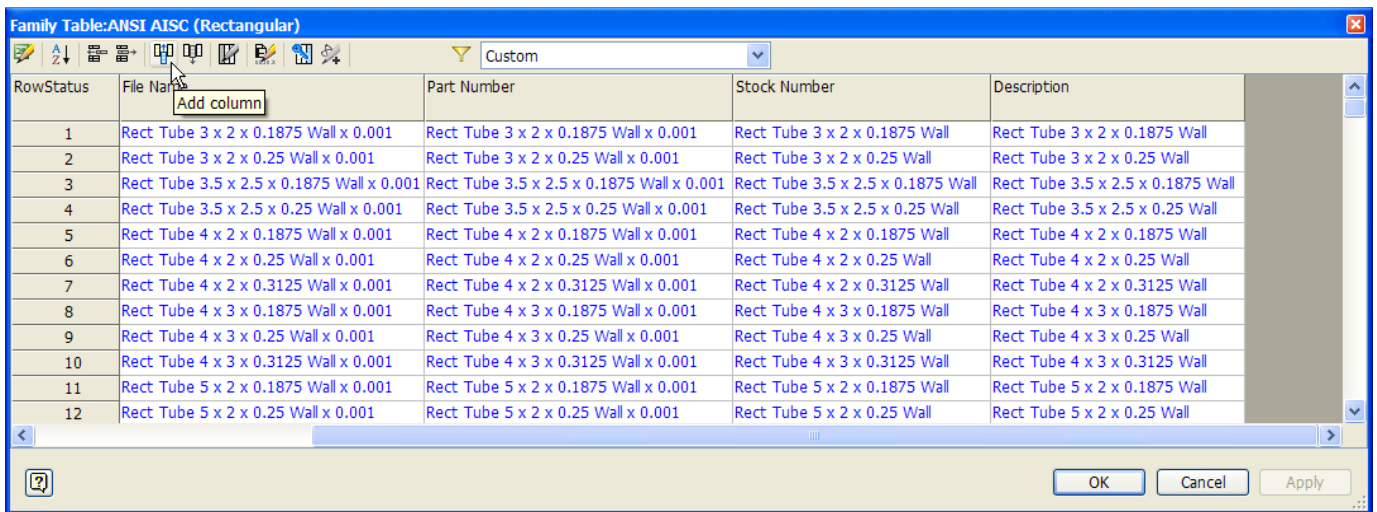

Figure 10: Family Table with Description column added and mapped to the Stock Number parameter
- Left click on the 'Add Column' button near the top left as shown in Figure 10